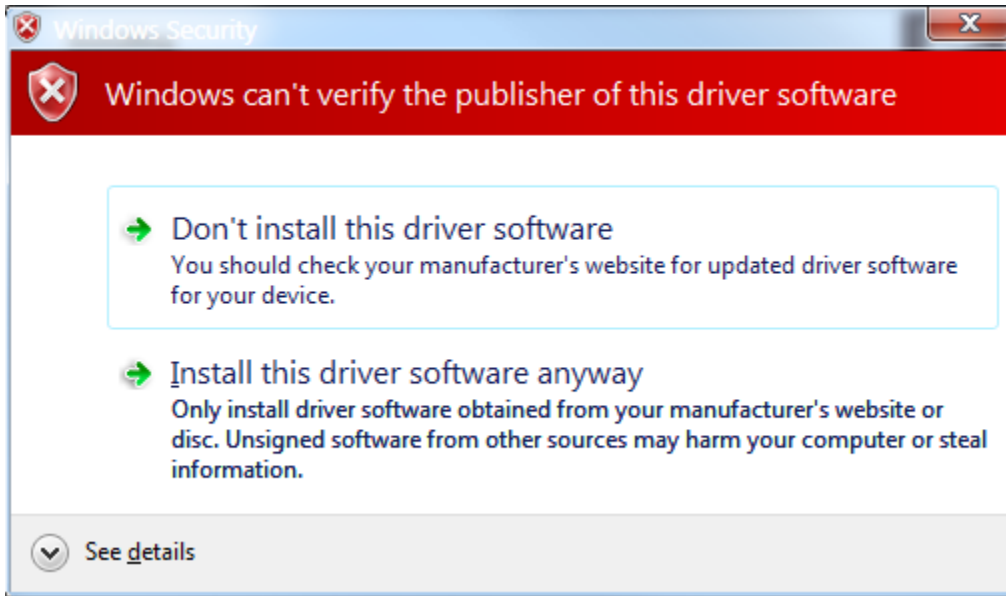

Figure 4 Example installation message
- 2) Run the provided Dash-setup.exe file. Accept all of the defaults. During the installation process, click **Yes**, **Ok** or **Install** to any confirmation messages related to driver installation such as that shown in figure 4 below: